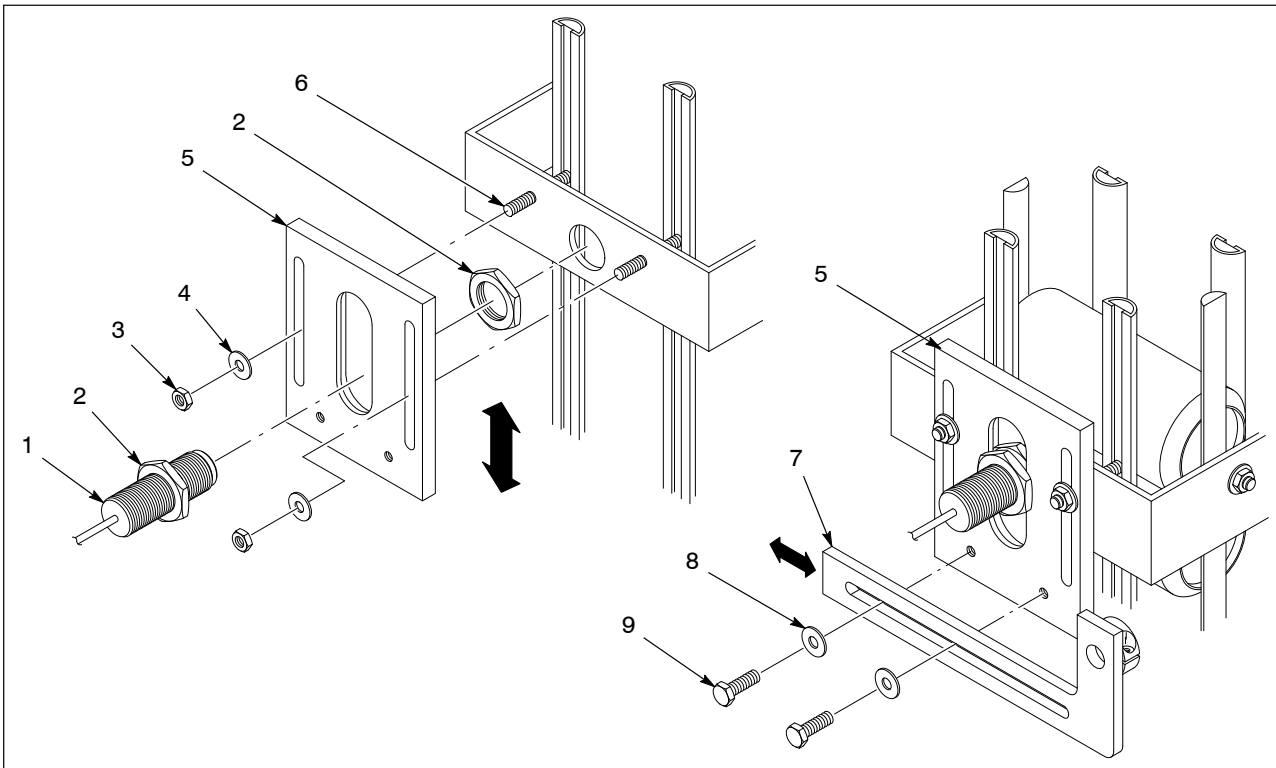

Figure 2 Bracket and Proximity Sensor Mounting
1. See Figure 2. Unscrew one locking nut (2) from the end of the proximity sensor (1).
2. Insert the proximity sensor through the center slot of the mounting bracket (5). The center slot has a lip that holds the locking nut securely in place.
4. Align the slots on the mounting bracket with the studs (6) on the rail and install the washers (4) and nuts (3). Tighten the nuts to hold the mounting bracket in place.
5. Secure the adjusting rod (7) to the mounting bracket (5) with the clamp screws (9) and washers (8).
2. Loosen the set screw (10), and rotate the gun mount until the gun is in the desired position in relation to the can. Tighten the set screw.
3. See Figure 2. Slide the adjusting rod (7) forward or back to adjust the distance from the gun nozzle to the can, then tighten the clamp screws (9).